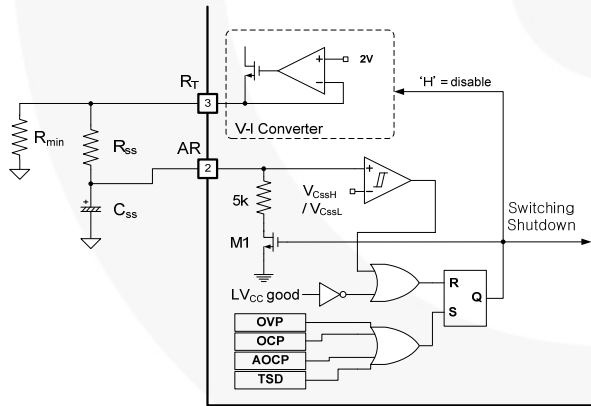
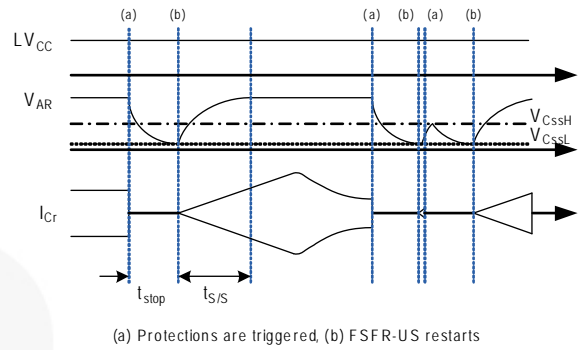

Figure 20. Internal Block of AR Pin
Figure 21. Self Auto-Restart Operation
4. Self Auto-Restart: The FSFR-XS series can restart automatically even though any built-in protections are triggered with external supply voltage. As can be seen in Figure 20 and Figure 21, once any protections are triggered, the M1 switch turns on and the V-I converter is disabled. C_{SS} starts to discharge until V_{CSS} across C_{SS} drops to V_{CSSL} . Then, all protections are reset, M1 turns off, and the V-I converter resumes at the same time. The FSFR-XS starts switching again with soft-start. If the protections occur while V_{CSS} is under V_{CSSL} and V_{CSSH} level, the switching is terminated immediately, V_{CSS} continues to increase until reaching V_{CSSH} , then C_{SS} is discharged by M1.